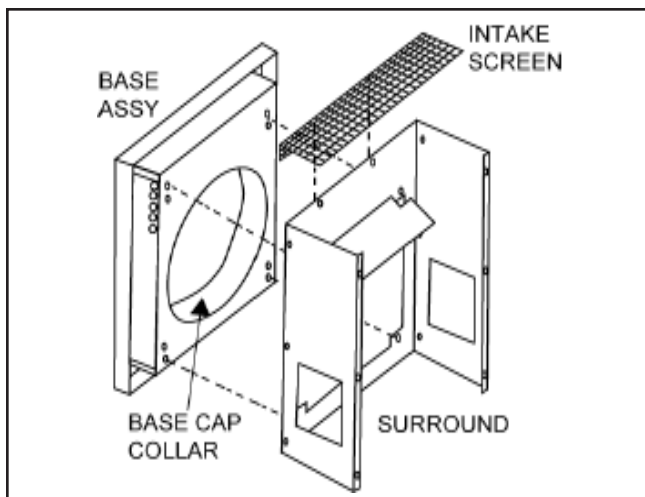

Figure 2 - Base Cap, Intake Screen & Surround Installation
1. Slide the base cap collar onto the 8 in. vent pipe extending through the house wall and secure the cap flush to the wall using the eight 1 in. fasteners provided. Seal the cap assembly to the wall with a mastic such as silicone caulking. See Figure 2.
2. Place the intake screen (has a 90-degree bend) on top of the surround and attach to the surround with two of the sheet metal screws provided. See Figure 2.
3. Align the four holes on the surround with the top two holes and the bottom two holes on the base cap and attach using four of the sheet metal screws provided. See Figure 2.